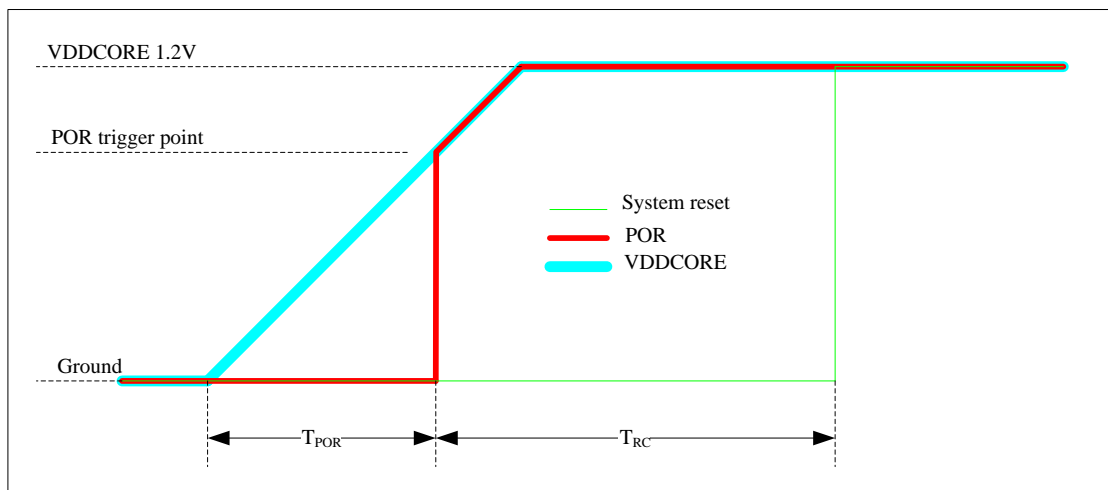

Figure 4-1 Power on reset
*Figure 4-1* illustrates the power-on and reset signals waveform during proper power-on. Internally, there is TPOR and TRC time for both the POR circuit and the internal counter. TPOR is the time for the POR circuit to stay at zero voltage until it reaches VPOR and the time varies for different VDD rise-up time. It can be assumed to be about 2/3 of the VDD rise-up time. TRC is the time for internal counter to count 4ms using internal RC-oscillator when the counter sees a high logic from PORB signal. As a result, the overall internal reset time is the sum of TPOR and TRC. Such a long time is required to ensure the Power is stable for system use. It also ensures all internal logics are properly reset.